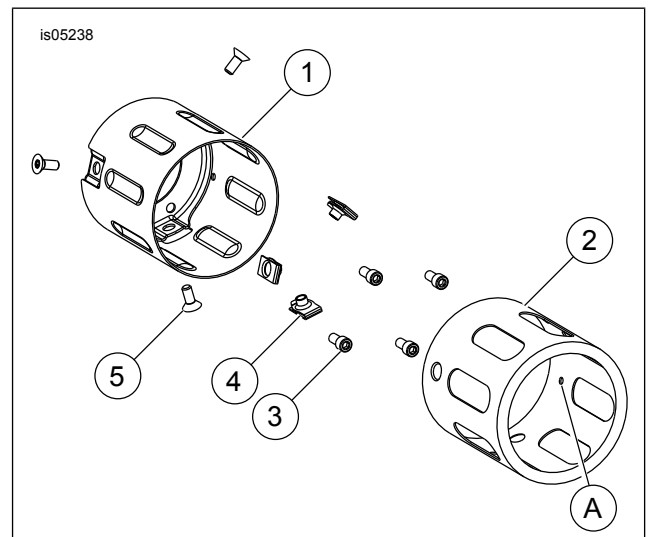

Figure 1. Service Parts: Touring Endcap Muffler Kit
See Figure 1 and Table 1.
1. See Figure 1. Slide the three clip nuts (4) onto the bosses of the inner sleeve (1).